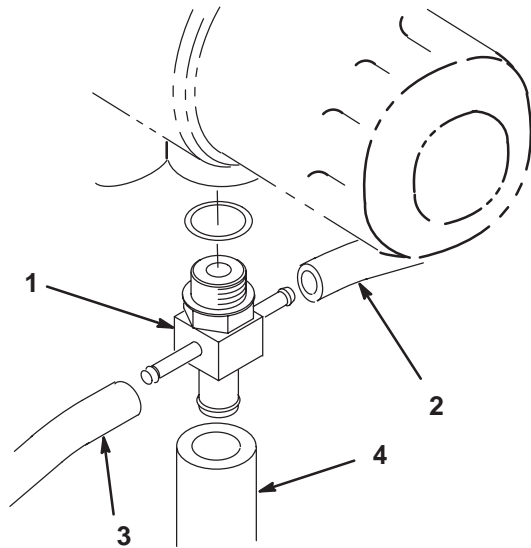

Figure 14
28. Disconnect the left and right lift cylinder hoses and return hose from the cross fitting on the bottom of the transmission (Fig. 14).
29. Remove the cross fitting from the transmission (Fig. 14).